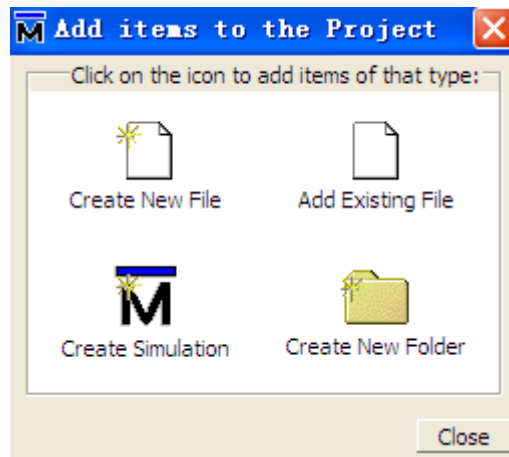

Figure 2.5 Add items to the Project
2. After that, you will observe the **Add Items to the Project** dialog window, shown in Figure 2.5.